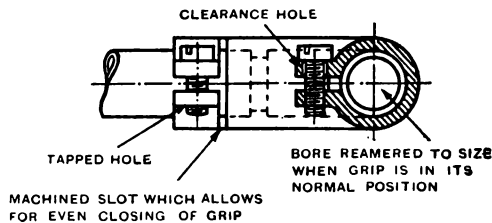

Fig. 3.—Lug Grip continuity system.
**The Lug Grip System** employs fittings of the highest class and forms the most efficient grip continuity system known. The action of the grip is seen in Fig. 3. The machining is done to very fine limits, and each operation is specially viewed. Parts that are machined but not enamelled are treated to prevent rust, and all grips are tested separately by a special machine before leaving the works. The material used enables a perfect springy action to be obtained at the lugs, so that the screws are always under tension, eliminating loss of grip through vibration and preventing the screws working loose.